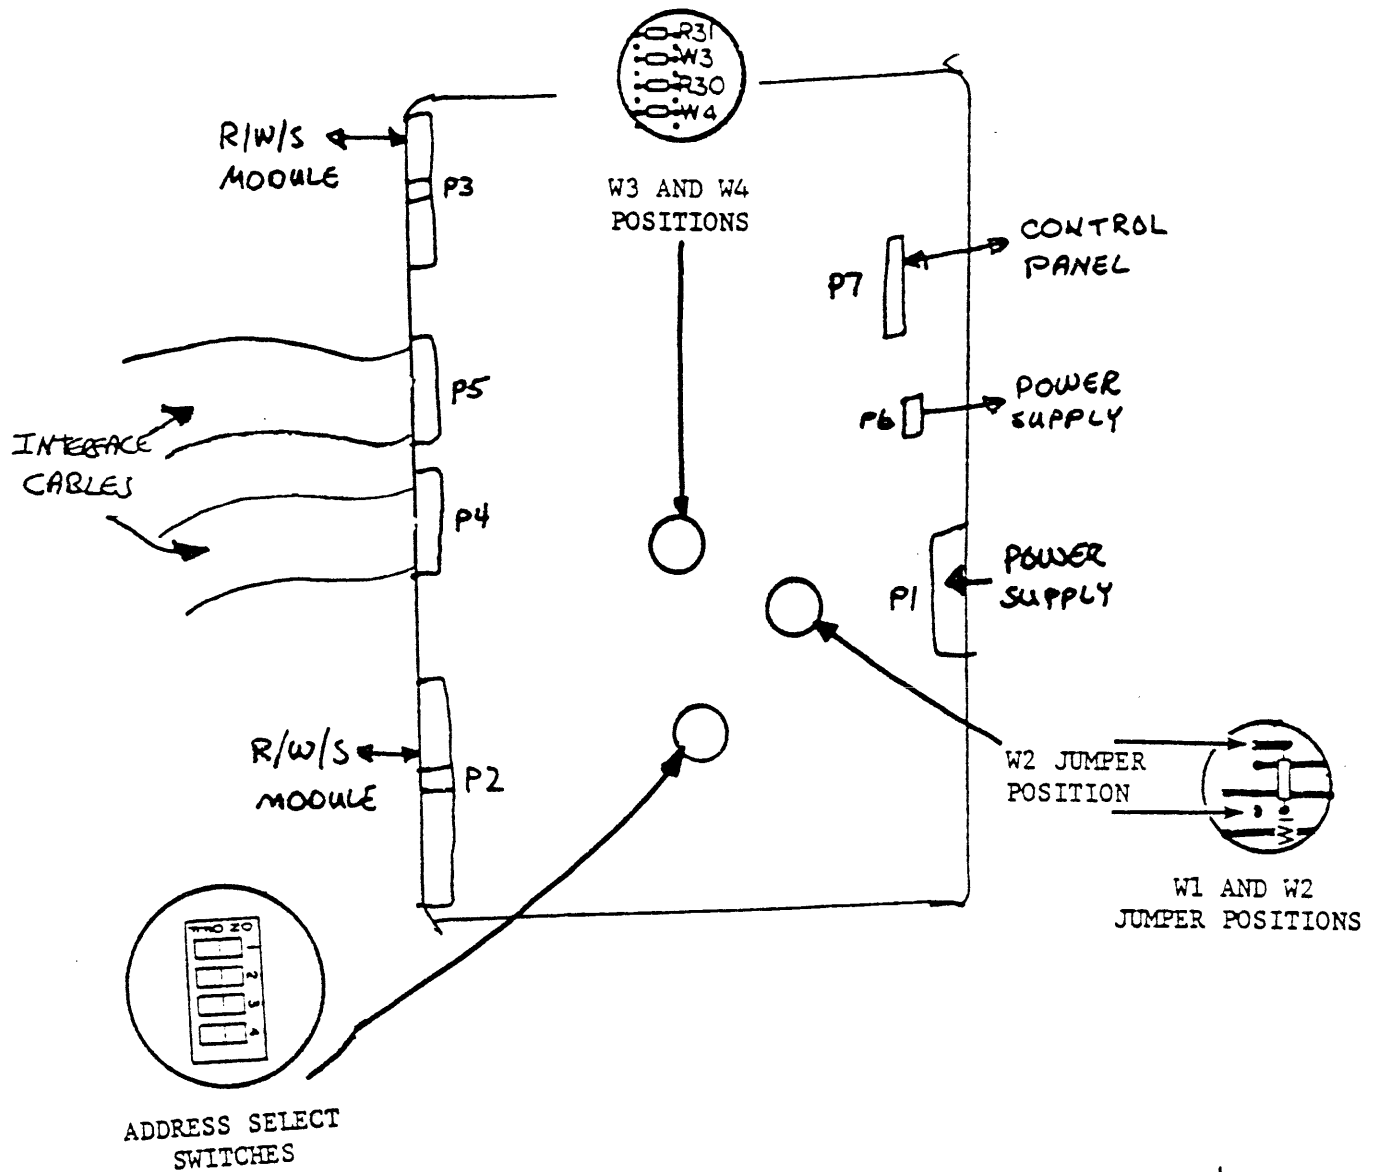

Figure 15 Formatter/Control (F/C) Module
- ___ 1. Detach the two interface cables (Figure 15) from the P4 and P5 connectors.
Prior to installing an F/C module (Figure 15), place the four-segment DIP switch at location D21 to same address as set in the removed module. Also make sure that the jumpers at location E16 are in the same position as in the removed F/C module.